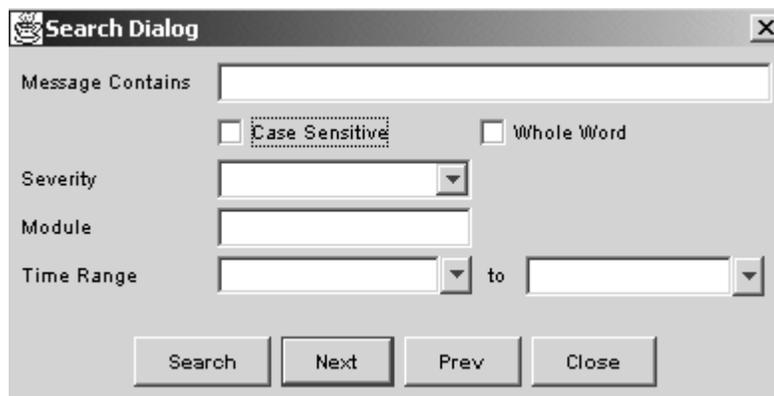

Figure 15: Search dialog box
Search	Click to launch the Search dialog box and search for particular data, such as specific messages, severities, modules, and time ranges. The Search dialog box is shown in Figure 15.
2. Click **Search** at the bottom of the dialog box. The **Search Dialog** box displays, as shown in Figure 15.